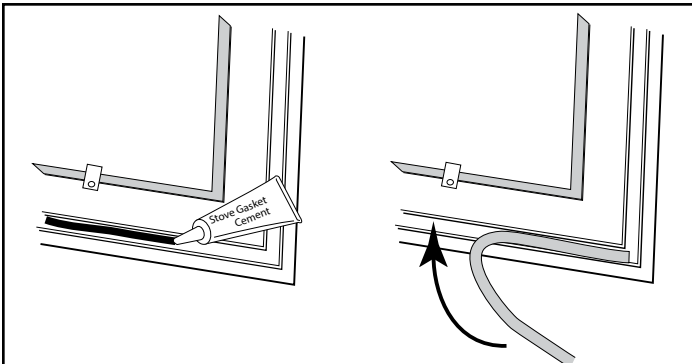

Fig. 46 - Lay a bead of gasket cement then press gasket in place.
5. Lay an unbroken 1/8" (3 mm) bead of silicone in the newly-cleaned channel. (Fig. 46)
6. Starting at one end, press the gasket into the channel. (Fig. 46) Ensure a good joint where the gasket meets before trimming any excess. Do not overlap the gasket ends or leave ends with ragged edges.